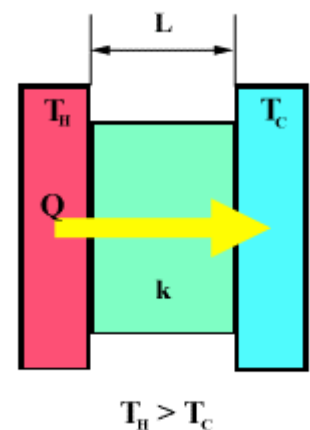

Fig. 2: Conduction, single layer
The rate at which heat gets transferred (see Figure 2) depends upon (1) the thickness of the material L , (2) the thermal conductivity k (this depends on the composition of the material), (3) surface area of the material A , and (4) the temperature difference between the reservoirs. If you understand the description above, this makes sense. If the wall is thicker, then it will take longer for the energy to get from one side to the other. If there is more surface area, then there are more collisions and paths for the heat to flow, which will increase the rate of heat flow. If the temperature difference is greater, then there will be more energy to flow across the material.